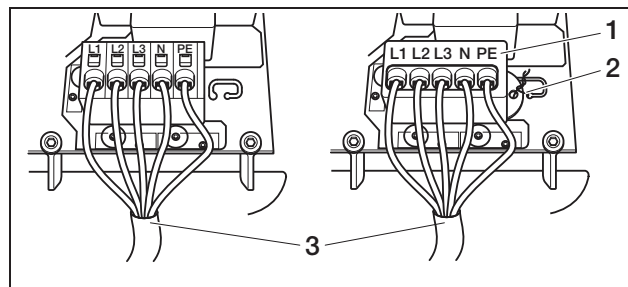

Fig. 15: Mains cable connected (left without sealing cap, right with sealing cap (illustration shows PIKO 7.0/8.3/10.1))
- Connect the conductors of the mains cable to the AC terminal in accordance with the labelling (figure 15).